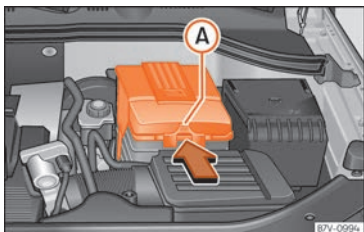

Fig. 298 In the engine compartment: remove the lid from the vehicle's battery.
- *In the case of a lid:* press the tab »» Fig. 298  in the direction of the arrow and pull the cover upwards.